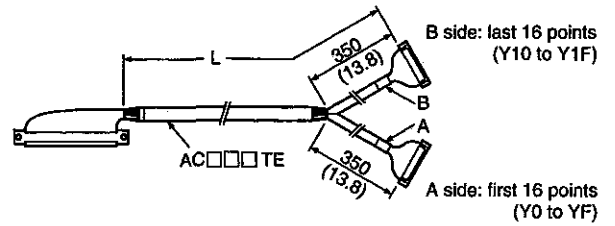

Figure 4.2 Connection Cable
- 2) One cable (separate arrangement; see Figure 4.2) and two relay terminal modules can share 32 points (one connector)